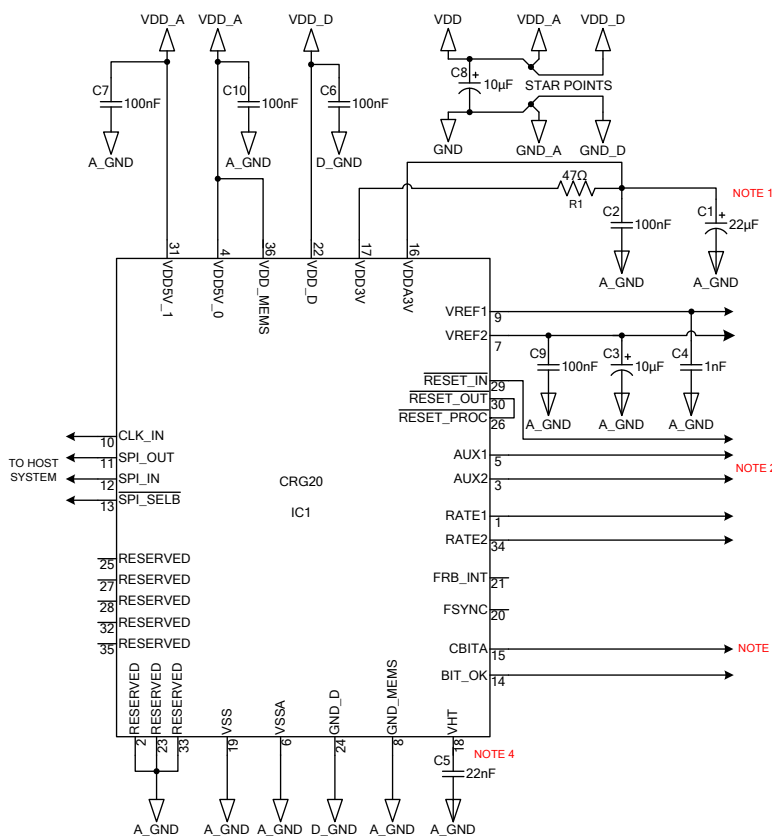

Figure 3
*5 Operating voltage stated as 4.75 V-5.25 V (5 V optimum). Device to be connected as per Figure 3.